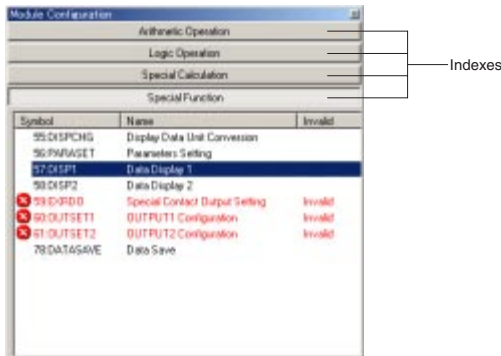

Figure 12.2.2 [Module Configuration] Dialog Box
- (1) In the [Input Block] dialog box (Figure 12.1.15), double-click a blank box. The [Module Configuration] dialog box (Figure 12.2.2) appears.